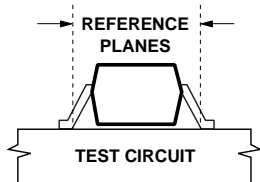

Figure 19. Phase Reference Planes.
5. Reference plane per Figure 19 in Applications Information section.
The positions of the reference planes used to measure S-Parameters for this device are shown in Figure 19. As seen in the illustration, the reference planes are located at the point where the package leads contact the test circuit.